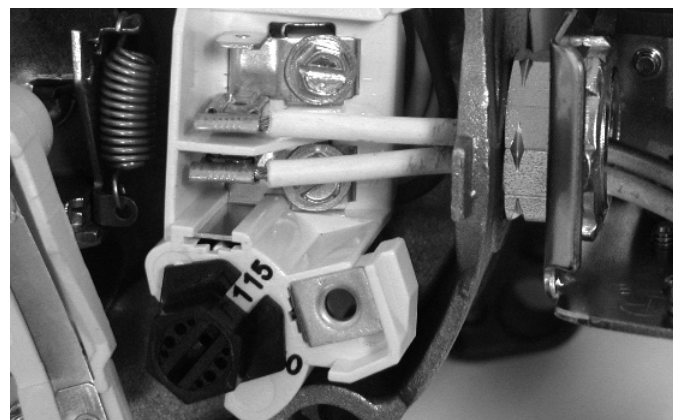

Figure 9: Voltage set to 115 V, Dial Type
2. Turn the dial counter-clockwise until 115 shows in the dial window as shown in Figure 9.